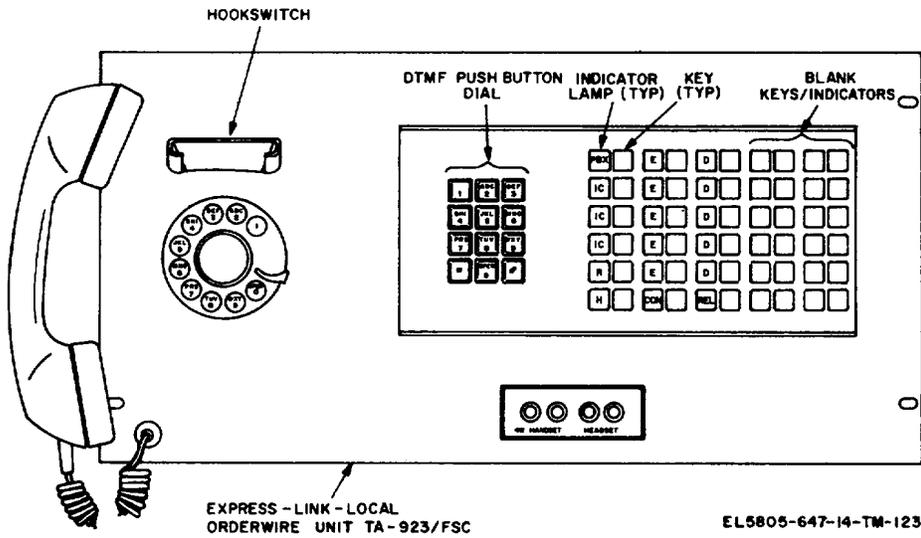
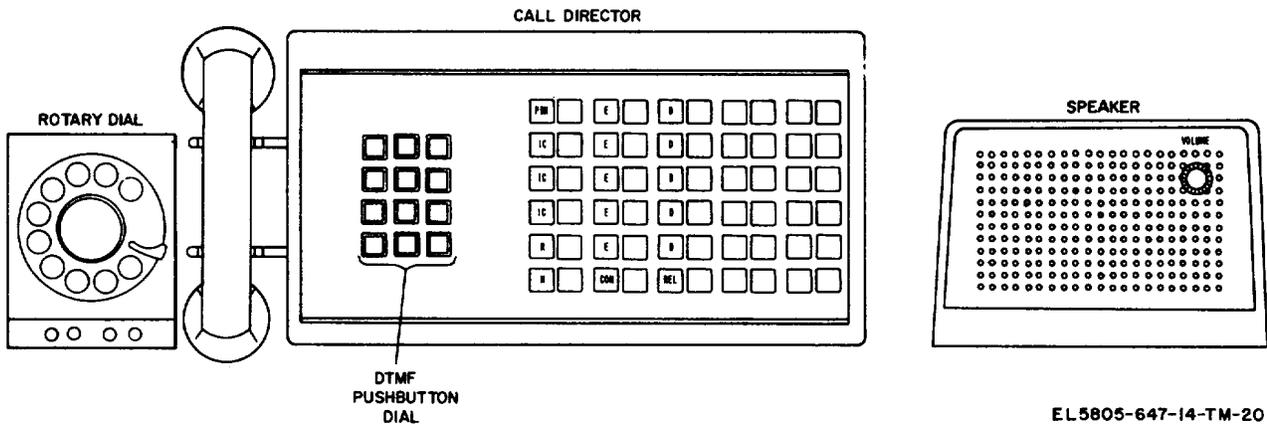

Figure 3-1. Express-Link Local Orderwire Unit TA-923/FSC, controls and indicators (front view).
Figure 3-2. Express-Link Local Orderwire Unit TA-928/FSC, controls and indicators (front view).
a. Operator's Access Units (Desk Type and Rack Type) (fig.3-1 and fig. 3-2).